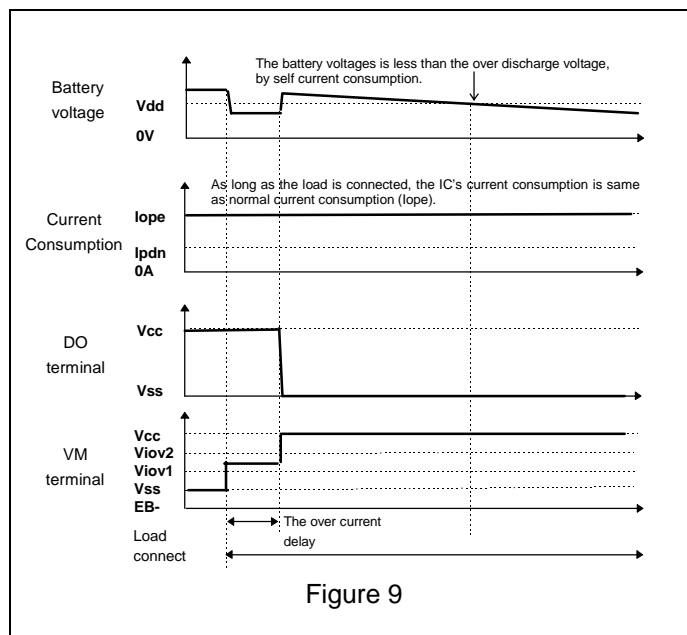

Figure 9
(3) After the over current detection, the load was connected for a long time, even if one of the battery voltage became lower than over discharge detection voltage (VDD1,2), the IC can't detect the over discharge as long as the load is connected. Therefore the IC's current consumption at the one of the battery voltage is lower than the over discharge detection voltage is same as normal condition current consumption (IOPE) . (Refer fig.9)